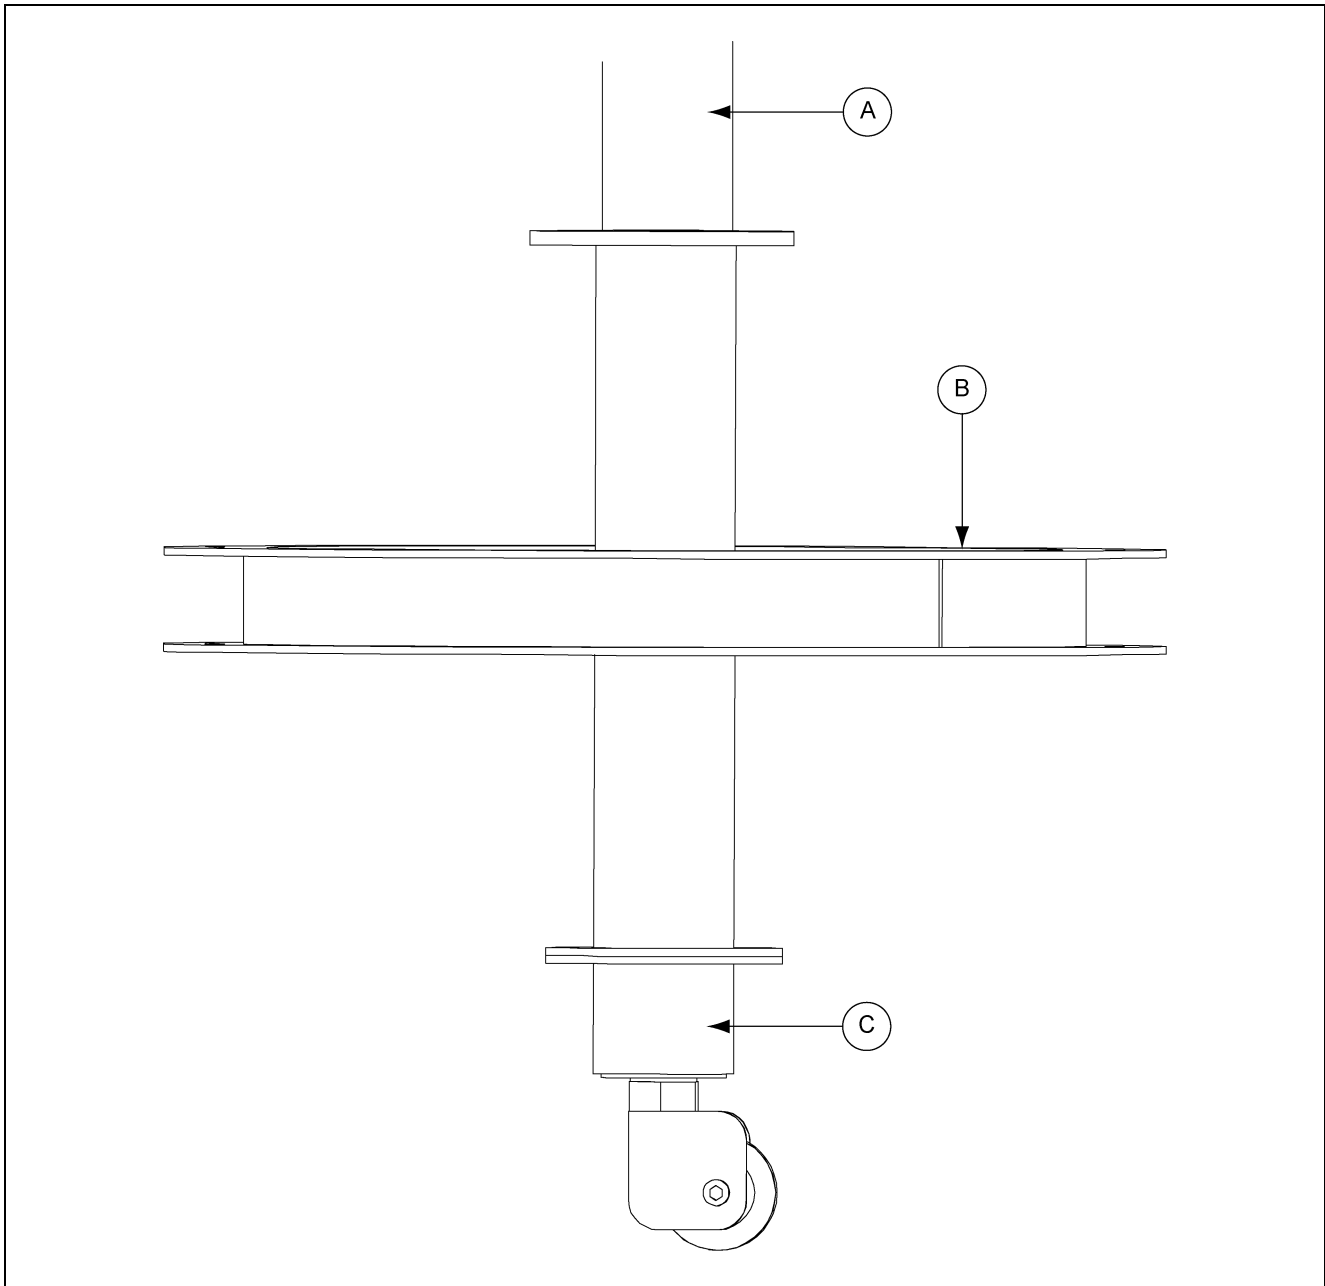

Figure 5B
The next piece to install is the connector pulley assembly (C). This piece mounts to the top cable wheel weldment (B) as shown in Figure 5B. These are fastened together using two (2) 5/16" x 1" bolts and nuts, supplied in the hardware package (FC-DCG-HDW).